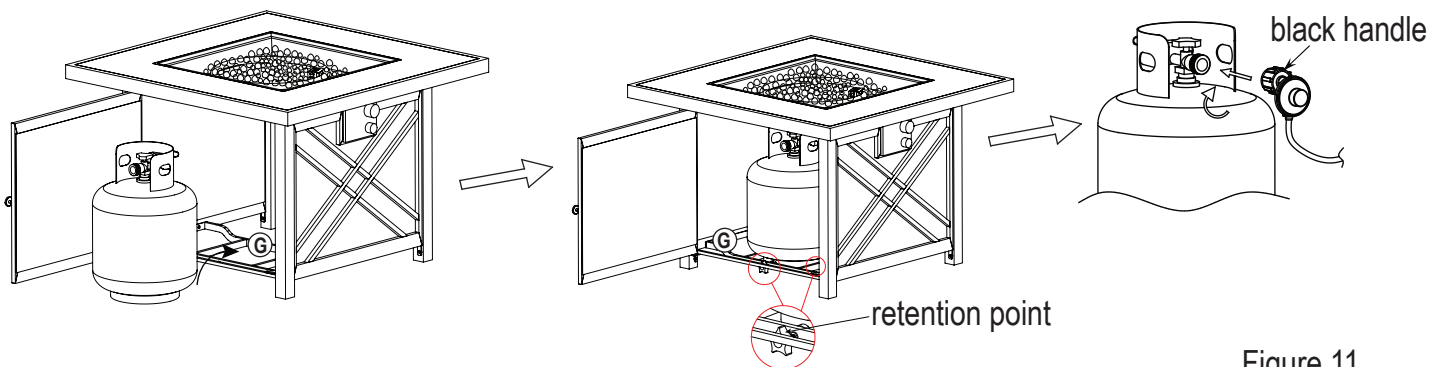

Figure 11
11. Open the door, place the gas cylinder into gas cylinder support (G), connect the regulator, screw the black handle clockwise to tighten, turn the black handle counterclockwise to remove. Secure the gas cylinder by tightening clockwise the retention point found on gas cylinder support (G), so that the gas cylinder cannot move from side to side or fall down. The hose must point down. The knob on the control panel is turned all the way to the "OFF" position when the fire pit is NOT in use (see Figure 11).